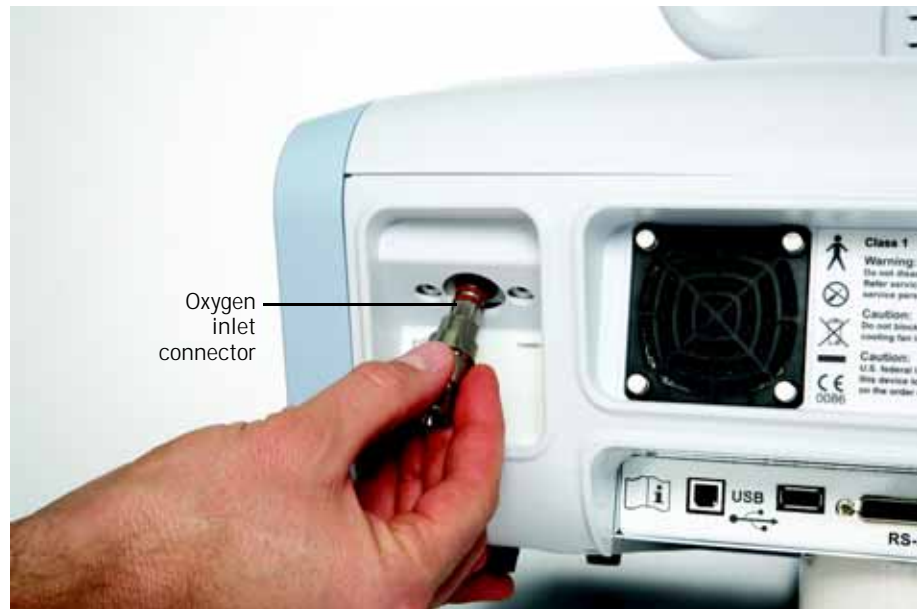

Figure A-3: Installing the oxygen inlet connector
1. Install the oxygen inlet connector as follows (Figure A-3):